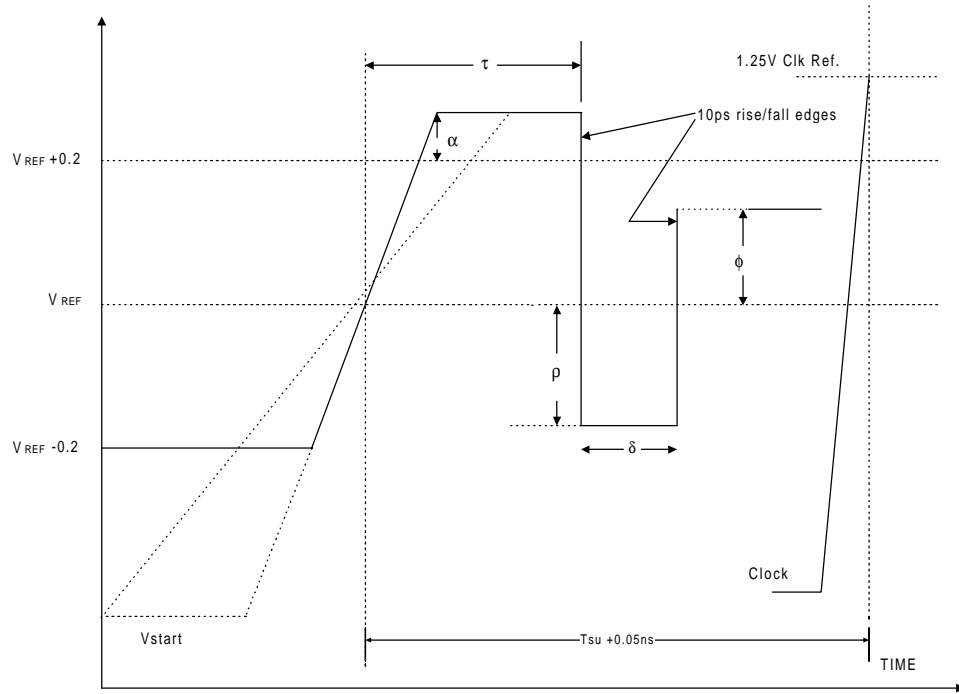
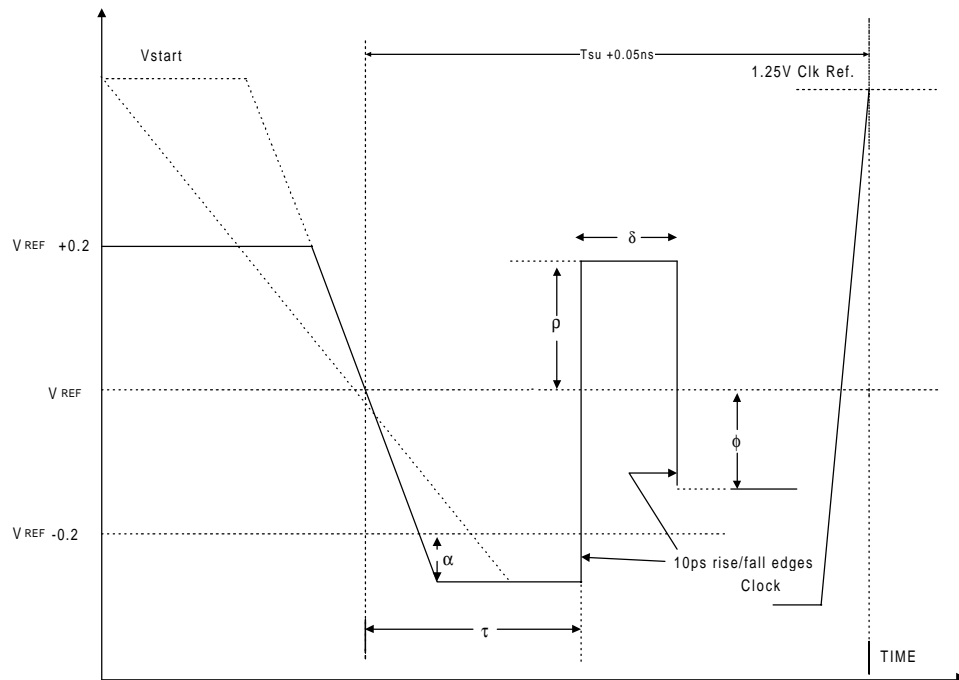

Figure 12-12: Standard Input Lo-to-Hi Waveform for Characterizing Receiver Ringback Tolerance
Figure 12-13: Standard Input Hi-to-Lo Waveform for Characterizing Receiver Ringback Tolerance
1. Specified for an edge rate of 0.8-1.3 V/ns. See the *Pentium® Pro Family Developer's Manual* for the definition of these terms. See Figure 12-12 and Figure 12-13 for the generic waveforms. All values are determined by design/characterization.